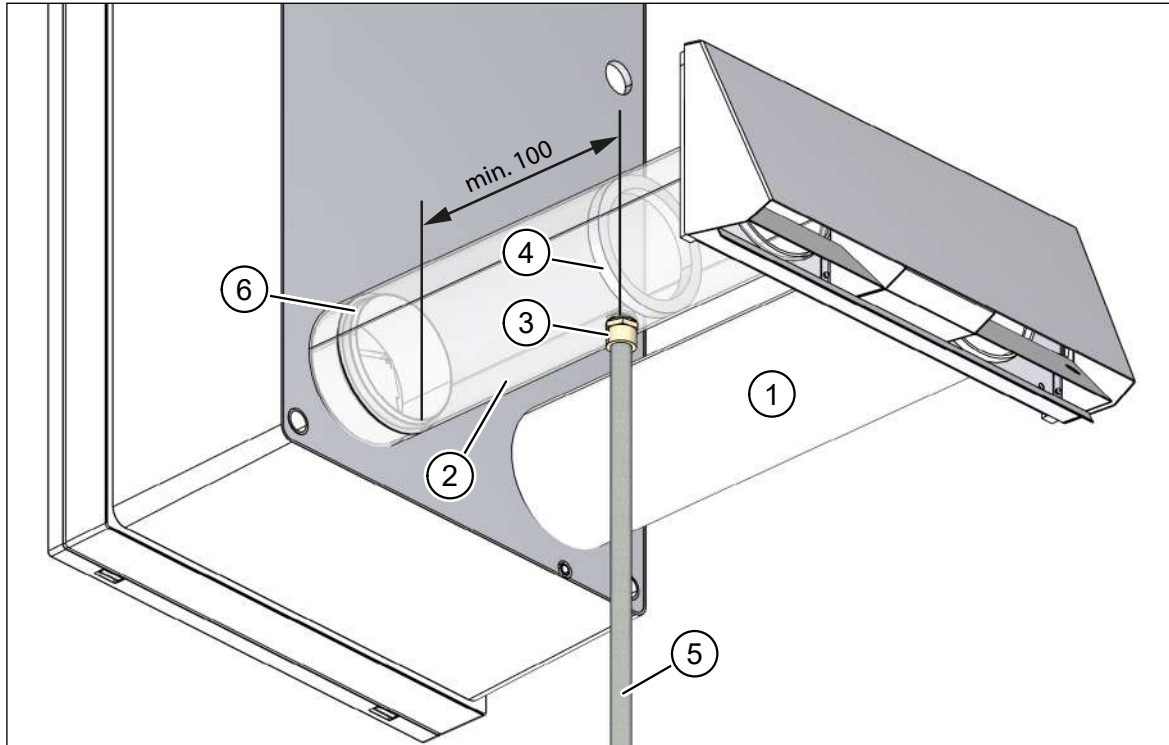

Fig. 32: Condensate drain on the exhaust air pipe, dimension in millimetres
- Outdoor air pipe, DN 100, 0.5 m (item 1 in Fig. 32)
- Exhaust air pipe, DN 100, 0.5 m (item 2 in Fig. 32), with 1/2" male thread connection (item 3 in Fig. 32) and barrier (item 4 in Fig. 32) for retaining the condensate
- In cold regions, protect the condensate drain pipe (item 5 in Fig. 32) against frost, e.g. by running it behind the facade insulation.
- Maintain a minimum gap of 100 mm between condensate drain pipe (item 5 in Fig. 32) and exhaust air connector (item 6 in Fig. 32).